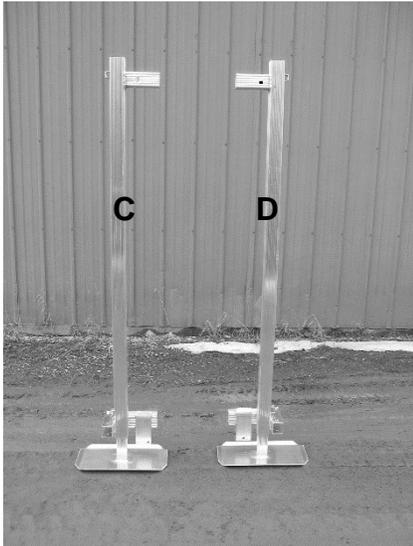

FIG. 12
1. Locate corner posts **C & D** shown in FIG. 12.